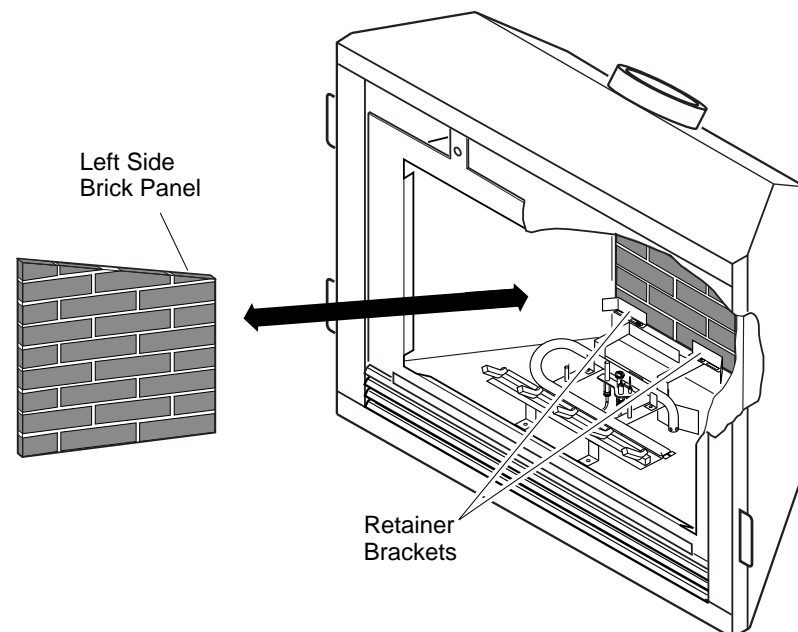

Figure 45 - Installing Left Side Brick Panel
5. Install left side brick panel by sliding it between the grate and the side of the firebox (see Figure 45).